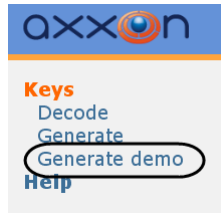

Fig. 4.10—1 Generating an activation key for a free license
1. Use your Web browser to go to <https://sale.axxonsoft.com> (Fig. 4.10—1).
2. Go to the **Generate demo** link (see Fig. 4.10—1).